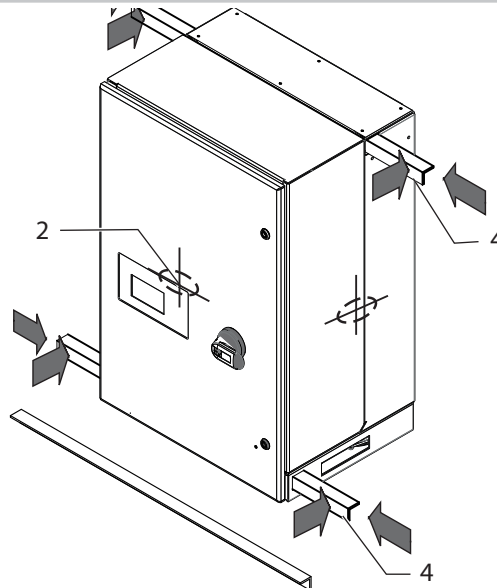

Figure 14: Lift the unit with a transport device
- 1. Use the lateral openings for lifting **or** insert the transport device into the lateral slots and lift the unit at the designated positions (see Figure 14 on page 16).